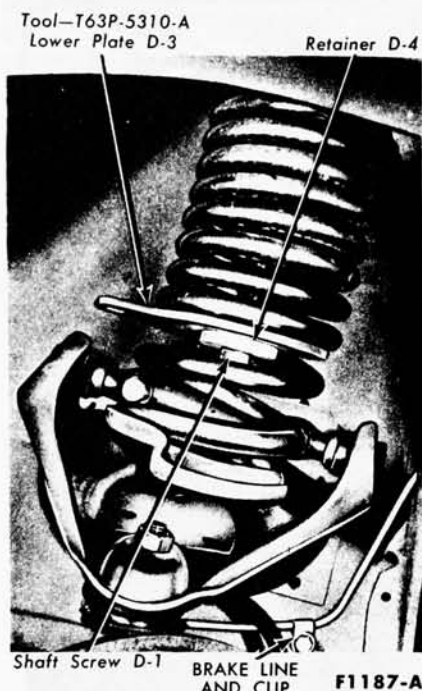

FIG. 7 – Compressing or Releasing Spring—Lower View
4. From under the car, place the tool lower plate under the fourth coil from the bottom. Secure the plate to the coil by installing the tool retainer in the groove in the shaft screw (Fig. 7).
5. Insert a 1/2-inch square drive flex-handle wrench in the drive hole in the lower plate to prevent the tool with spring from turning (Fig. 7). While holding the tool, compress the spring by turning the tool shaft nut clockwise (Fig. 6).
7. Remove the bolt that retains the clip and brake line to the chassis, then move the brake line out of the way (Fig. 7).
9. Fully release the spring tension by turning the tool shaft nut counterclockwise (Fig. 6). Be sure to hold the lower plate of the tool with the 1/2-inch square drive flex-handle wrench so that the tool will not turn or snap loose during spring release (Fig. 7).